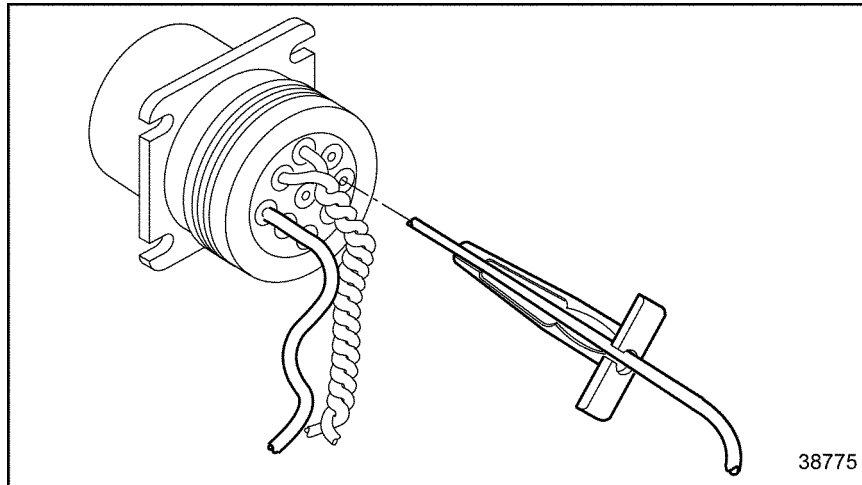

Figure 3-24 **Removal Tool Insertion**
2. Slide the tool along the wire into the insert cavity until it engages and resistance is felt. Do not twist or insert tool at an angle. See Figure 3-24.